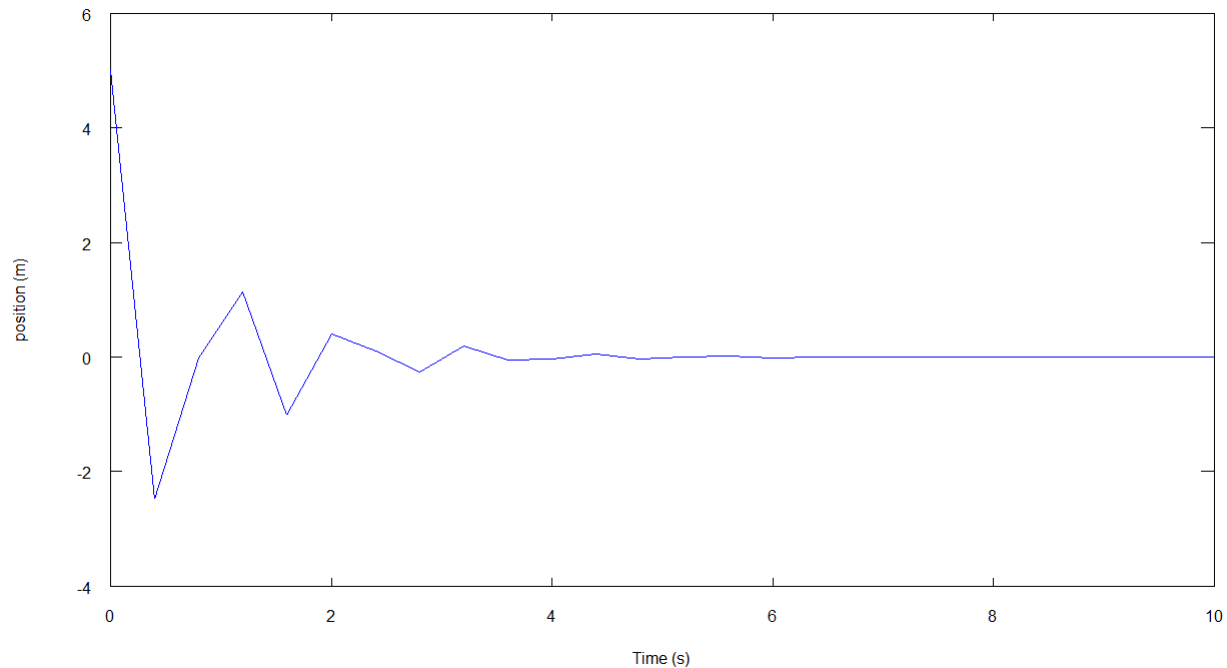

Figure 8: Position vs. Time for Mass-Spring-Damper system with loss of data
- 🔍 Notice that several oscillations are lost and the results are incorrect in Figure 8. Erroneous data is presented due to undersampling.